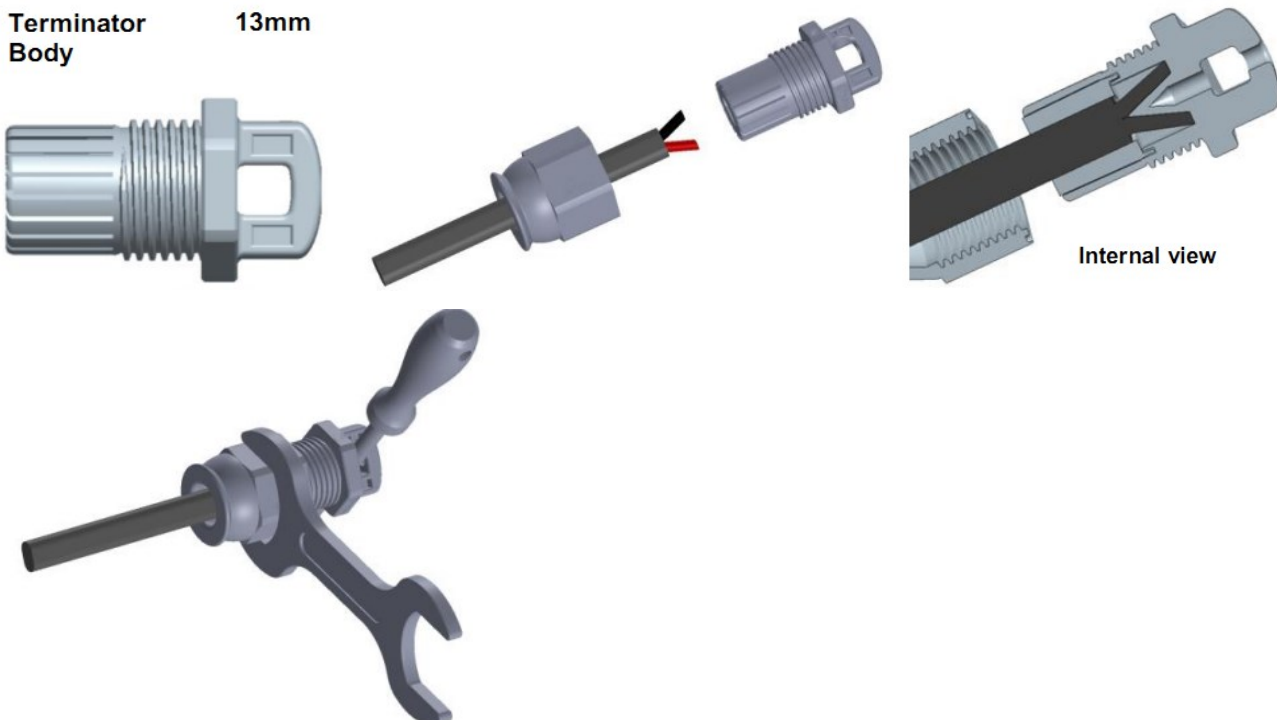

Figure 13. Terminate the Unused End of the Cable
- Terminate the unused end of the Enphase Q Cable (See Figure 13).